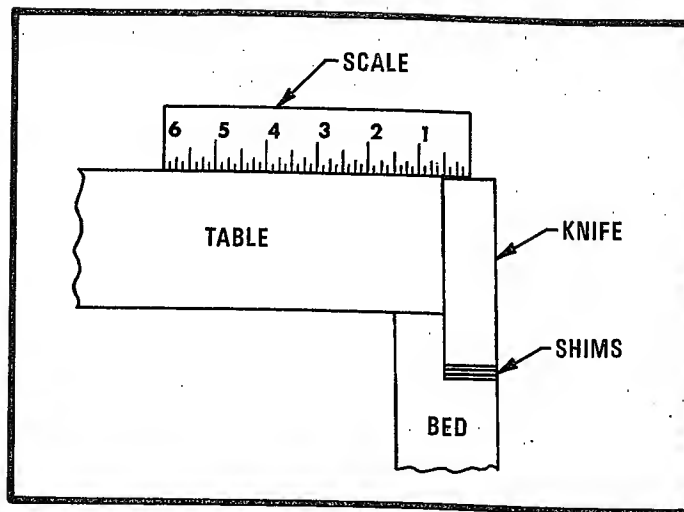

FIGURE 64
54. Check height of lower knife. Refer to Figure 64. The scale should touch in the middle of the knife.